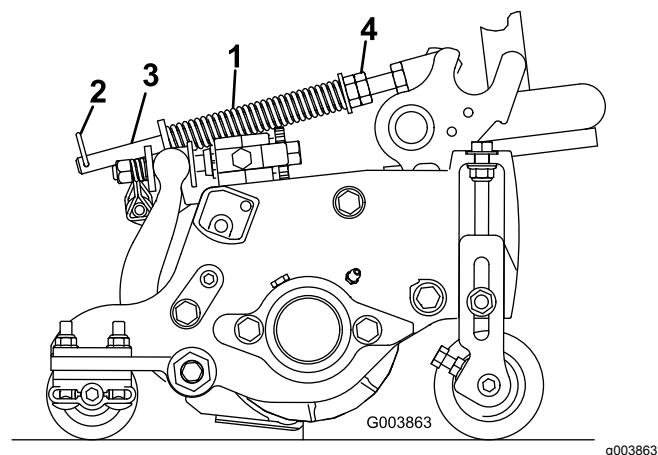

Figure 21
1. Make sure that the hairpin cotter is installed in the rear hole in the spring rod (Figure 21).
2. Tighten the hex nuts on the front end of the spring rod until the compressed length of the spring is 15.9 cm (6.25 inches); refer to Figure 21.